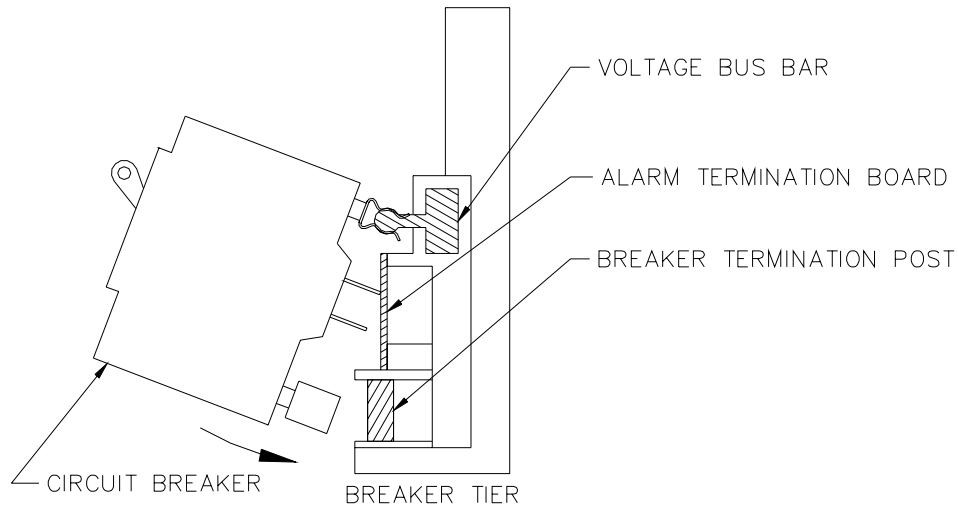

Figure 5-9 Plug-in Circuit Breaker Insertion
- 2) Install the circuit breaker(s) by snapping the top terminal onto the upper bus bar and rotating the unit down until the second terminal snaps onto the breaker termination post as shown in Figure 5-9. The breaker alarm terminals are designed to make contact with the alarm terminal board as the breaker is snapped into place.